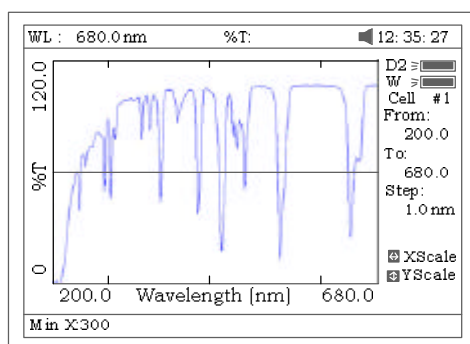
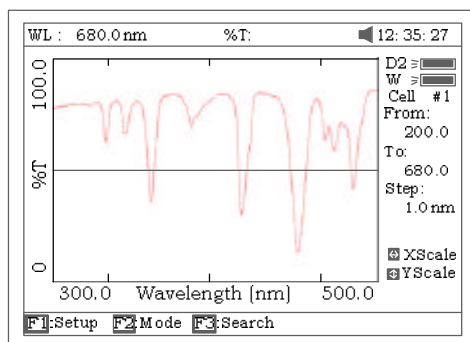

Fig47
Fig 48
- 5 If you want to change the scale, press [<] or [>] to change “x” scale (Fig 47), input upper limit and lower limit by pressing the numeric keypad . To change “y” scale press [] or []. After these inputs the instrument will redraw the curve (Fig 48).
Press **[SAVE]** to save the curve. Note: Load/Save requires the first scan display page Fig. 48. Press **ESC** if in Search to return to the required page